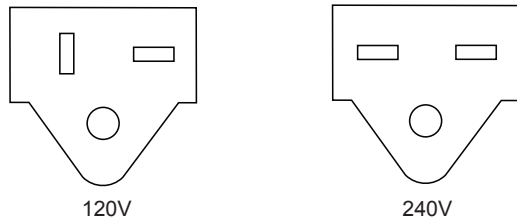

Fig. 2-19, Line Cord Plugs
3. Connect the correct power cord to the power supply (see Fig. 2-19)